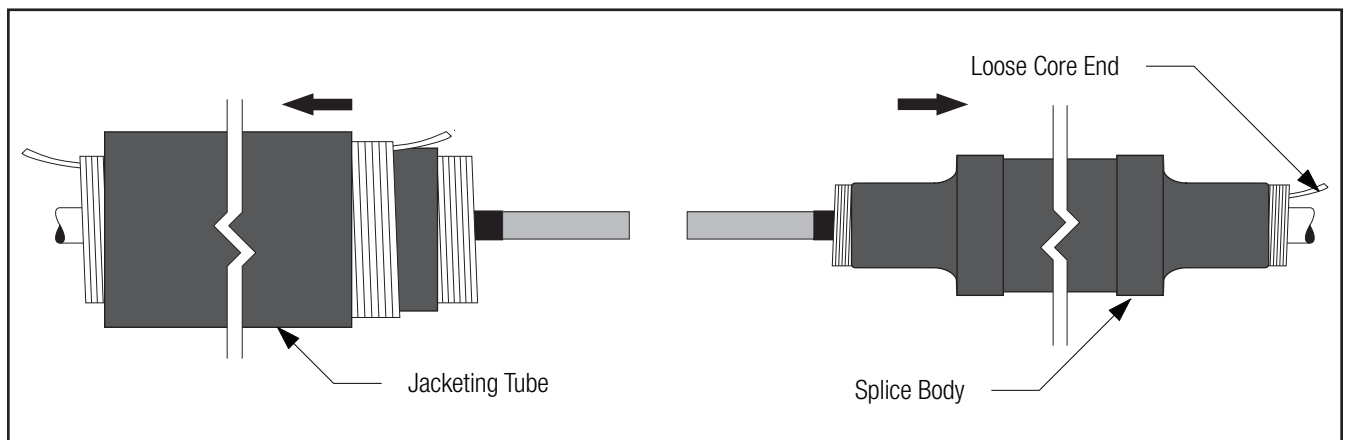

Figure 7
- 2.5 Clean or cover cable jacket if necessary, for cold shrink parking position. Slide jacketing tube onto one cable end. Slide splice body onto opposite cable, loose core end first. For size transitions, park splice on smaller cable (Figure 7).